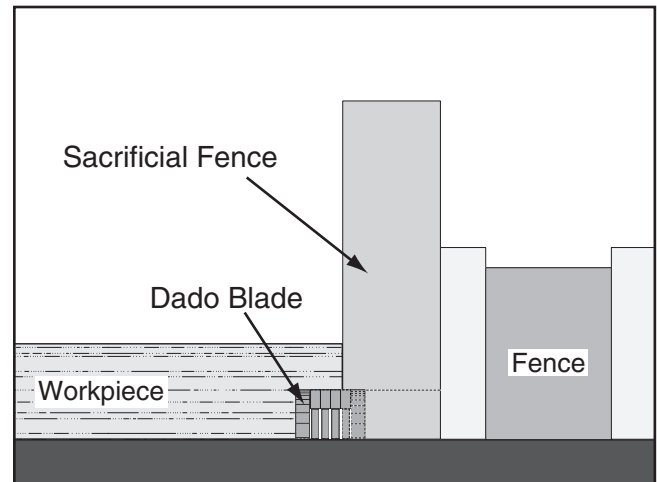

Figure 56. Rabbet cutting.
3. Adjust the fence and align the workpiece to perform the cutting operation, as shown in **Figure 56**.